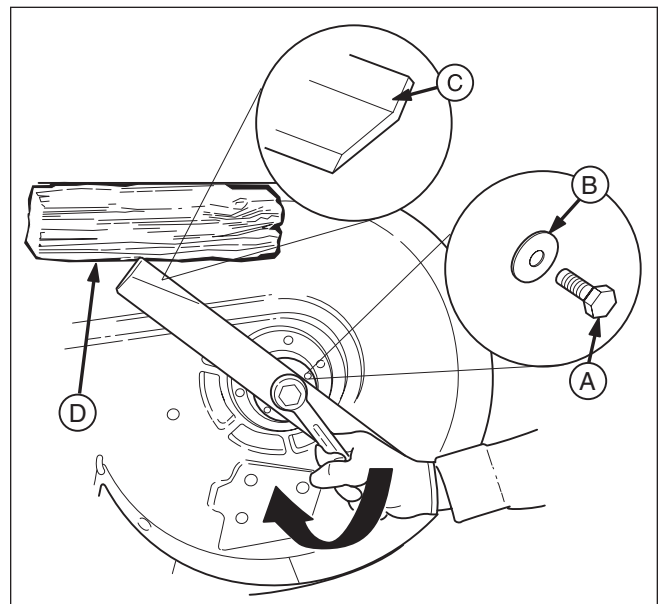

Figure 31. Tightening the Mower Blade for Installation
1. Reinstall each mower blade with the air lifts pointing up towards the mower deck as shown in Figure 31.
36" Models: Make sure the blade is firmly seated in the blade saddle. Secure with the mower blade mounting bolt and flat washer (A & B, Figure 31) and torque to 70 ft. lbs (94 Nm).
48" Models: Secure with the mower blade mounting bolt and flat washer (A & B, Figure 31) and torque to 70 ft. lbs (94 Nm).